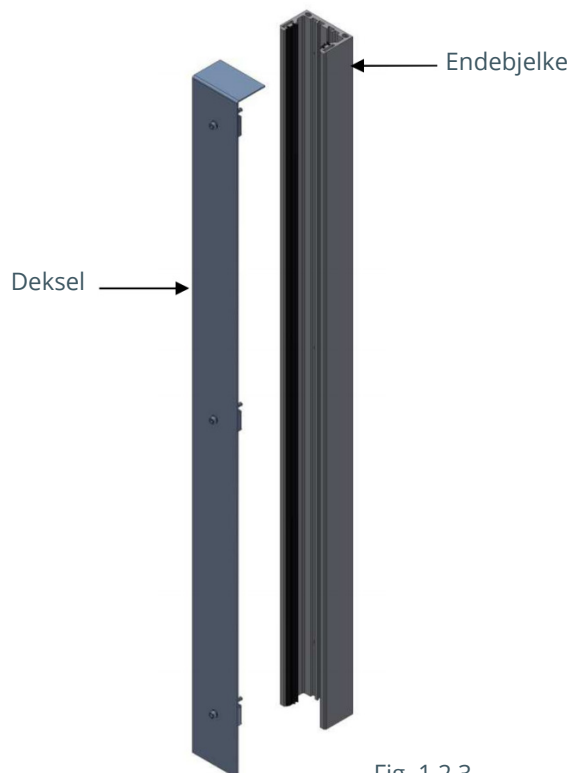

Fig. 1.2.3
- A) Kontroller deksler for skader (Fig. 1.2.3)